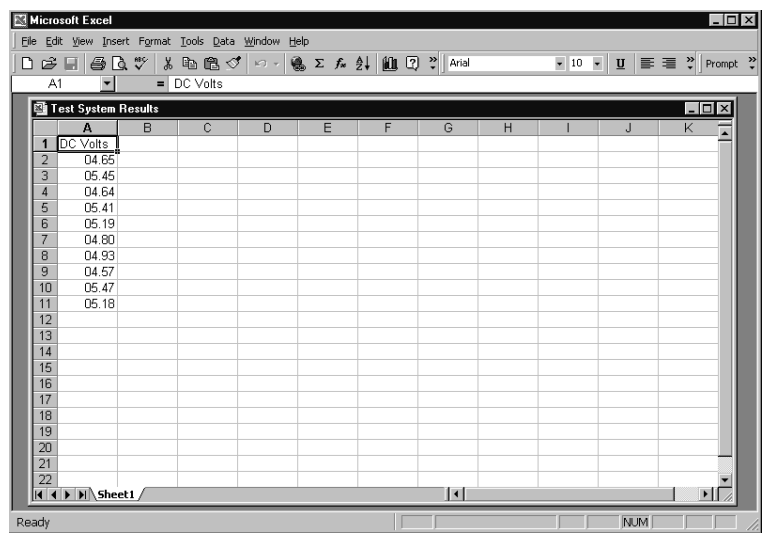
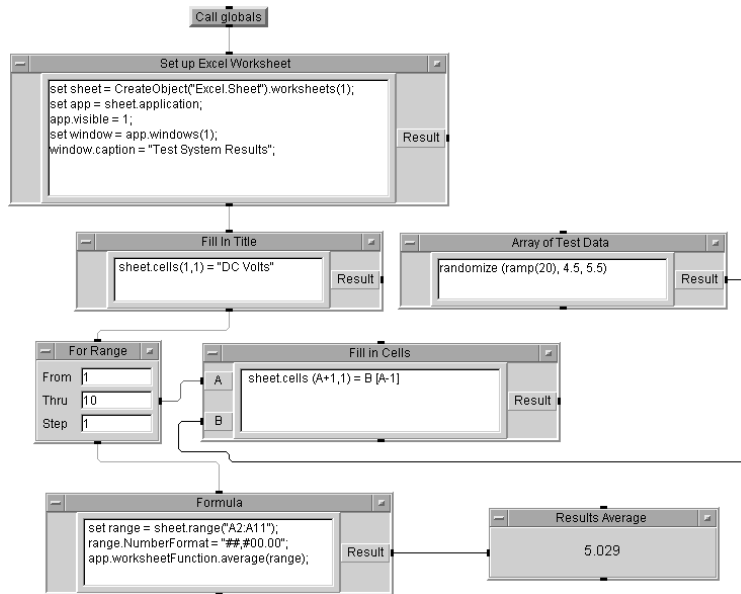

Figure 155 Excel Worksheet for Array of Test Data
Figure 156 Program for Array of Test Data
- 6 Save the program as **report_template.vee** and run it. Compare it to the Excel worksheet as shown in Figure 155 and the complete program as shown in Figure 156.